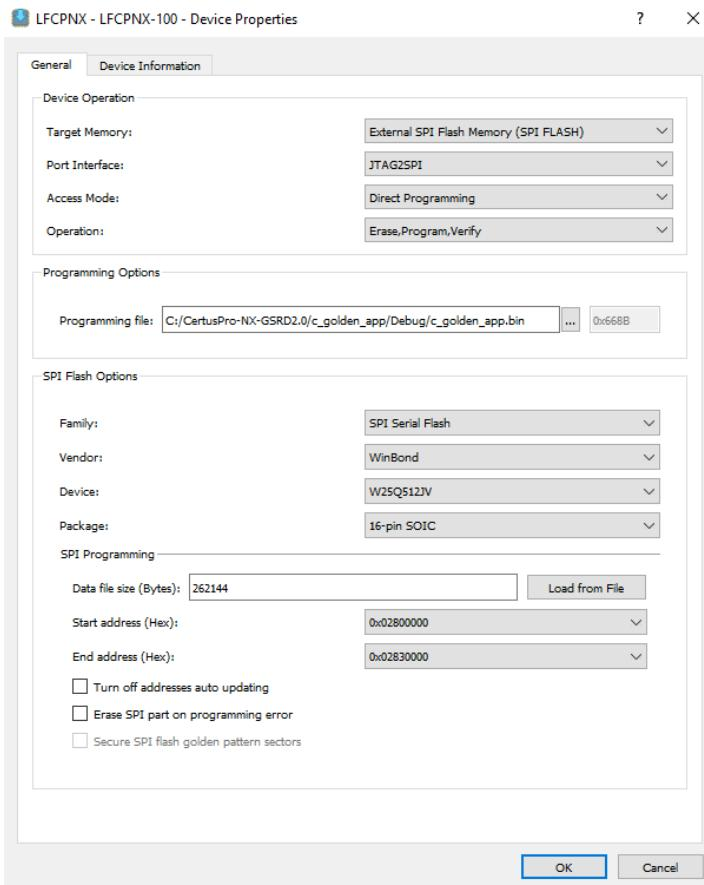

Figure 7.36. Device Properties settings to program the Golden Application
4. To program the `c_golden_app.bin` software file into the SPI Flash, Follow the settings as shown in Figure 7.36.